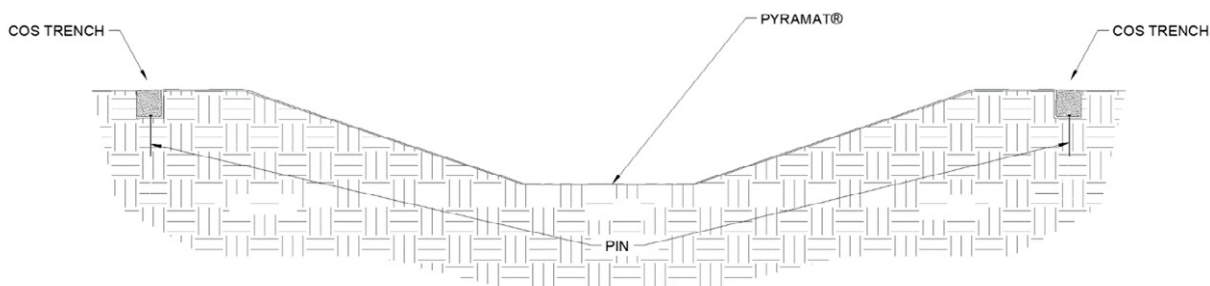

Figure 16: Top of Bank (COS) trenches complete
1. Starting with the downstream end of the site select one of the COS trenches to begin the **PROPEX** Pyramat laydown process. To ensure proper anchoring of the overlapped areas the proceeding roll width must be laid out before the current roll width can be anchored with exception to the final roll width at the TC trench. For straight sections of a channel, panel lengths should be long enough to construct both COS trenches while also covering the surface of the channel being armored. (Figure 16). Panel edges should rest perpendicular to the channel center line. For best results, panels of **PROPEX** Pyramat should be continuous and free from seams or roll end overlaps that are parallel to the centerline of the channel. Panel edge overlapping should follow a pattern of placing each proceeding panel's edge overtop the previous panel edge, shingling the panels in the direction of the water flow.
11. Secure **PROPEX** Pyramat with pins in the opposite COS trench. Suggested placement of pins for the opposite COS trench is along the bottom of the trench on 12 in (300 mm) centers (Figure 16).
12. Backfill and compact the opposite COS trench in the location of the first panel only (Figure 16).